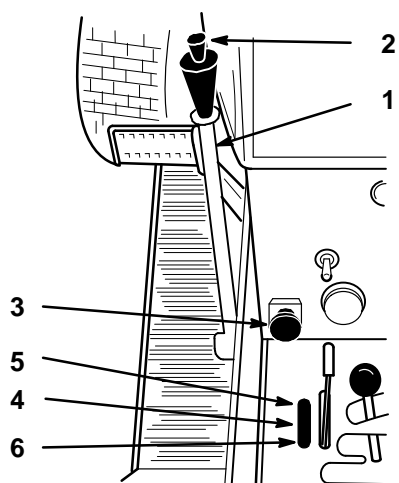

Figure 24
The attachment lift lever (Fig. 24) is used to raise and lower various attachments.
The Dial-A-Height control (Figs. 24) is used to limit the downward travel of the attachment, on gear drive tractors only. The Dial-A-Height knob is rotated to change the location of this stop, up or down.
1. Raise the attachment lift lever: Refer to Raising Attachments. In the raised position the Dial-A-Height knob (Fig. 24) can be rotated to change the stop location. Turn clockwise to raise and counterclockwise to lower the height of the attachment.
2. The Dial-A-Height indicator (Fig. 24) will show the change, high to low, in attachment lift height as adjustment is made.